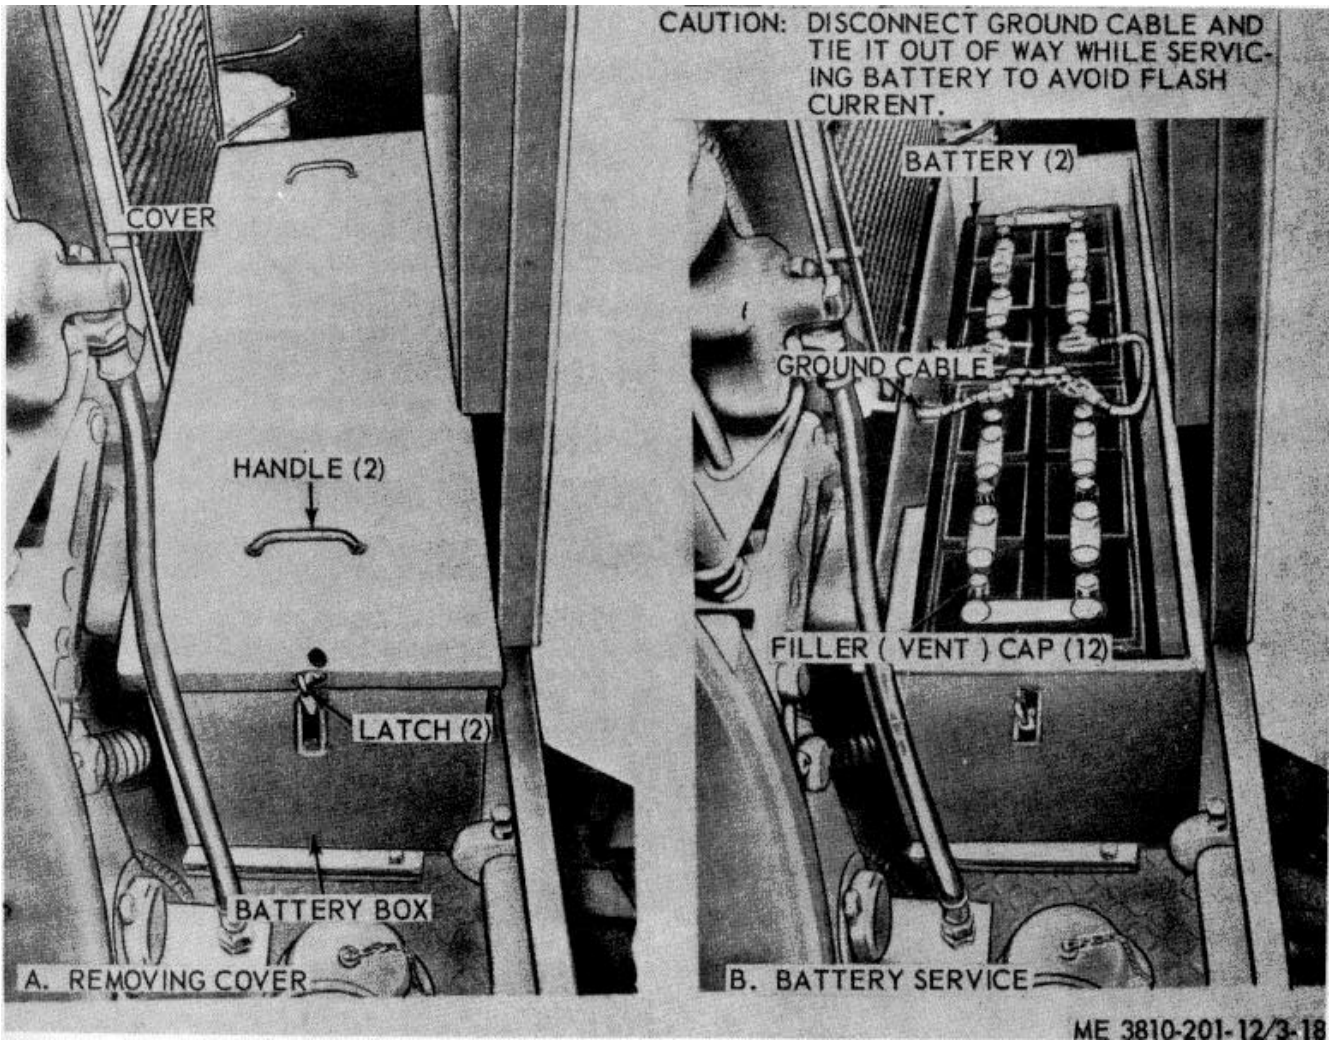

Figure 3-18. Battery service (winterized models).'
(1) Unhook two catches (fig. 3-18) and remove cover.
(2) Remove 12 filler caps; check level of electrolyte, add electrolyte or distilled water if necessary to bring level to 3/8 inch above plates.
(3) Clean vent hole in caps, then install all caps on batteries.
(4) Check that battery cables and ground cable connections are tight on terminals and free of corrosion.